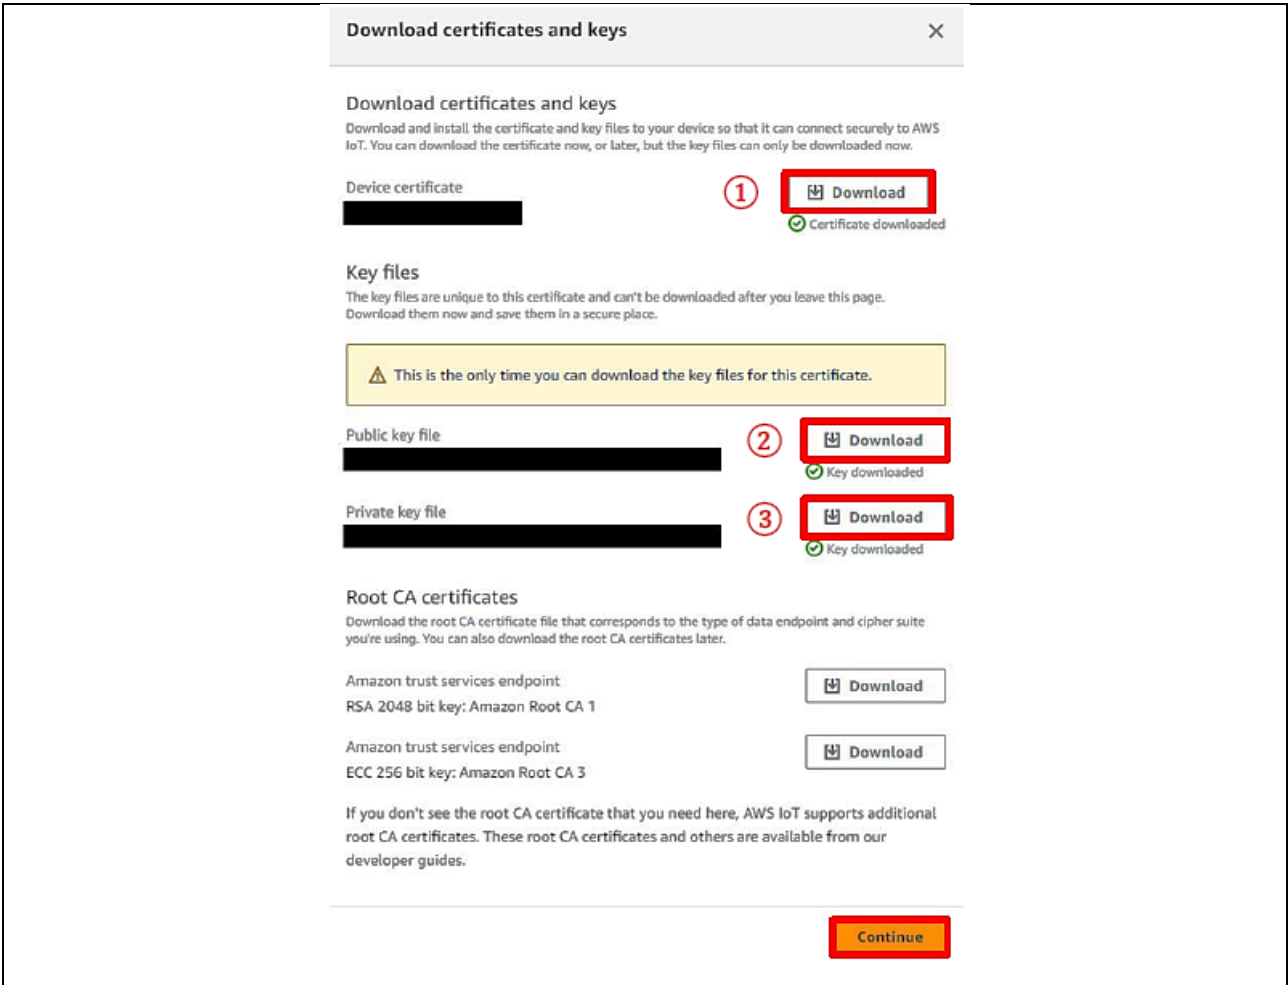

Figure 154. Downloading the Certificate and Key Pair
5. Next, storing fleet claim cert ID, claim private key ID that users created at **0**, users downloaded (Figure 154 **Figure 154. Downloading the Certificate and Key Pair**):